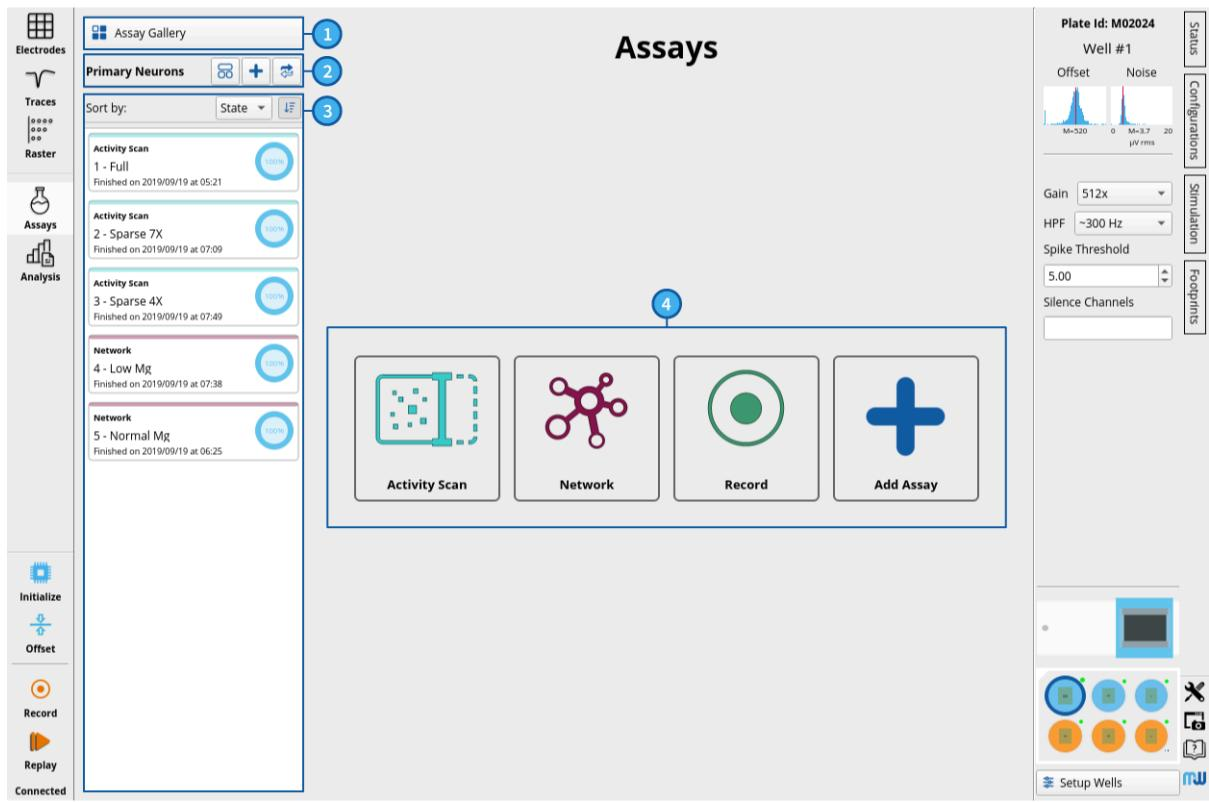

Figure 6.1. Overview of the Assays UI
Figure 6.1 shows the different components of the Assays View:
The Project Overview is accessed by clicking the corresponding button (2) in Figure 6.1 and summarizes all the relevant information of a project.
The first step to create a new assay is to open the Assay Gallery by clicking on button (1) in Figure 6.1. The available assays appear as icons in the Assay Content Area.